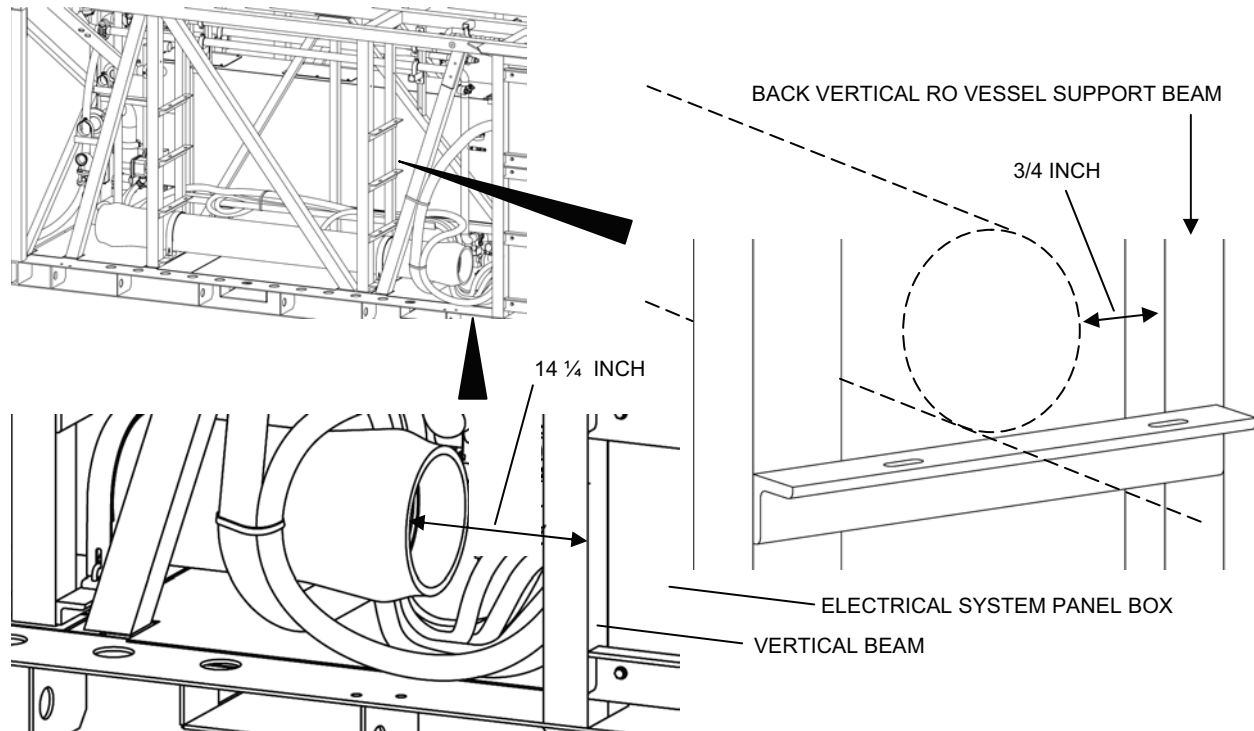

Figure 10. RO Vessel Positioning Dimensions.
- 1) The end of the vessel nearest the electrical system panel box must be 14¼ in. from the outside edge of the vertical beam next to the panel box (see Figure 10).
- 2) The back side of the vessel must be ¾ in. from the back vertical RO vessel support beam at both ends of the vessel (see Figure 10).